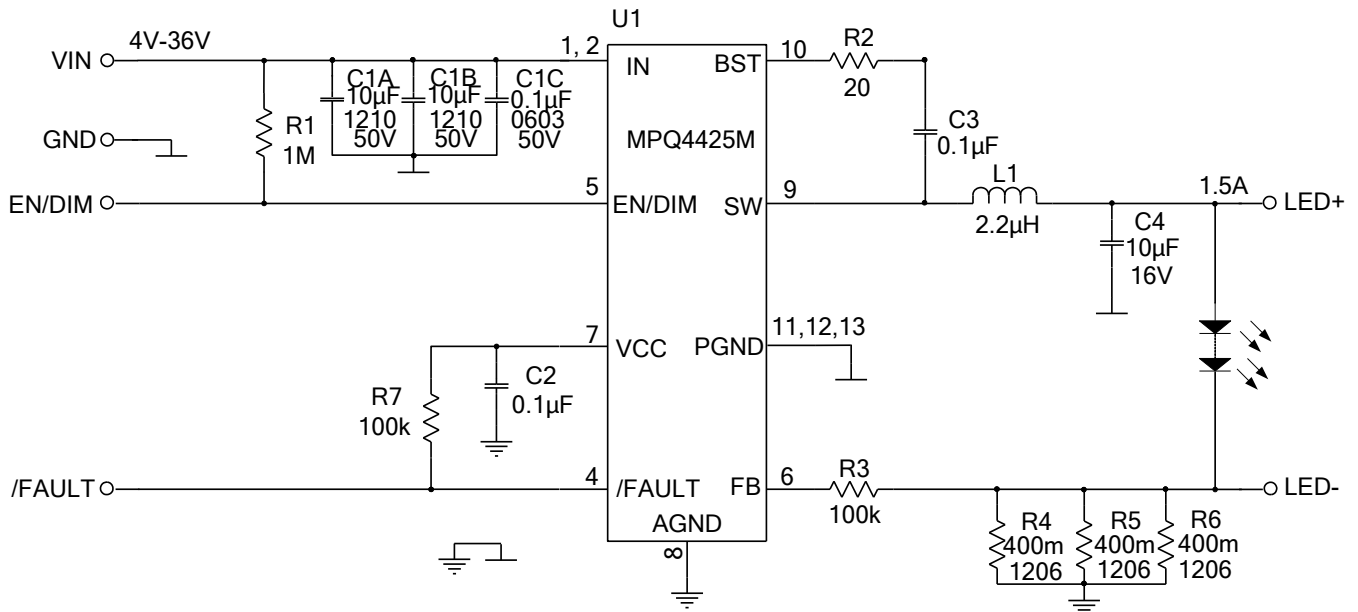

Figure 8:  $I_o=1.5A$  Application Circuit
7) The recommended layout is based on Figure 8.